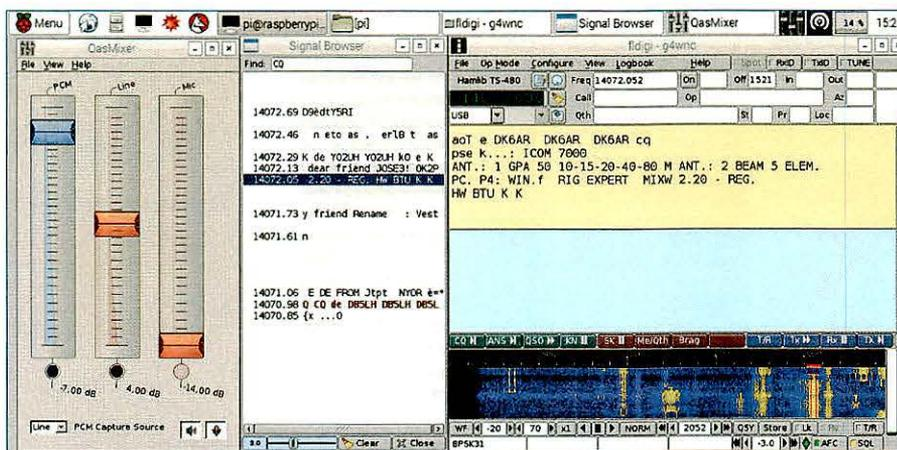

FIGURE 5: Ultimate QRP? Elad FDM-DUO driven by a Pi 2 with FLDIGI multi-channel decoding.
**ELAD DUO AND PI 2.** As I had the excellent Elad Duo in for review whilst writing this, I couldn't resist linking the new Pi 2 to the Elad. I can tell you it's an ideal match! The Elad's USB CAT and USB audio leads connect directly to the Pi 2's USB ports with no problems. I was able to very quickly set up a compact station with CAT control from FLDIGI and the QAS mixer controlling the transmit and receive levels. Even with the multi-channel decoder running, the Pi 2 was cruising with the processor remaining below 25%! All you need to add is a keyboard and screen and you have a wonderfully compact multi-mode station. A sample session is shown in Figure 5.